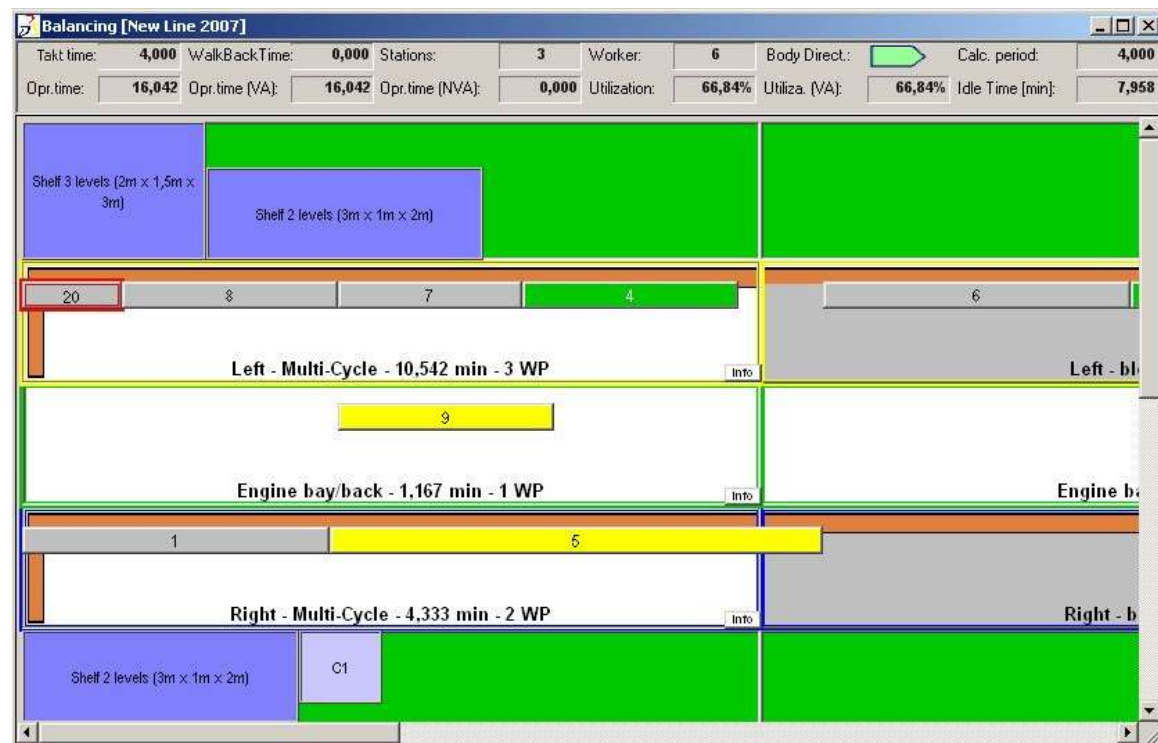

Figure 59: Example – Balancing
- **Balancing View:** Processes that have been assigned to the Balancinglist, are immediately created with stations and workplaces and are then shown in the Balancing view. *Please refer to the Figure 59.*